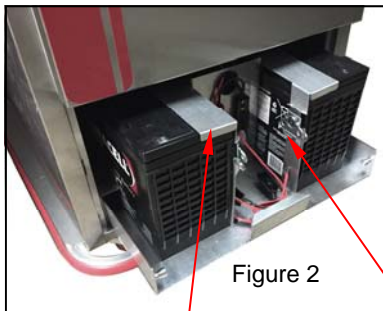

Figure 2
- 7) Raise the front edge of the battery hold down bracket (Fig. 2) over the front edge of the battery while sliding the battery out of the bracket.